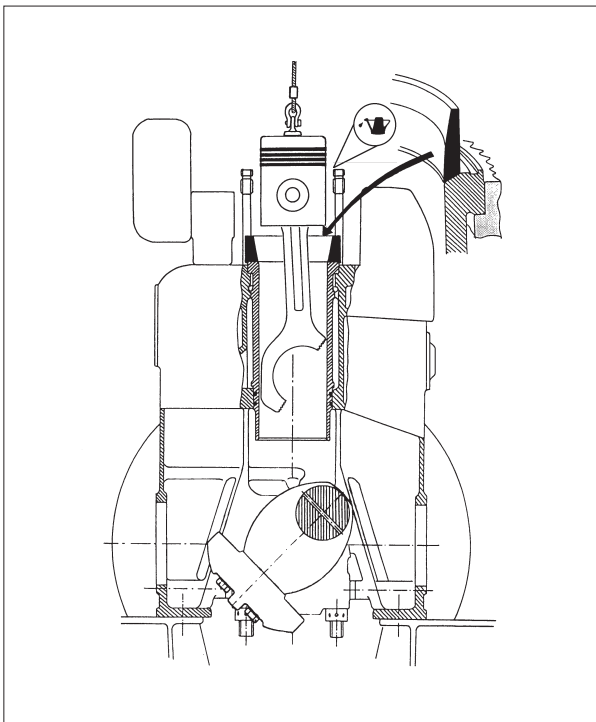

Fig 1.
- 3) Remove the backstop for cylinder liner and place the piston guide ring on top of the cylinder liner, *see fig 1.*